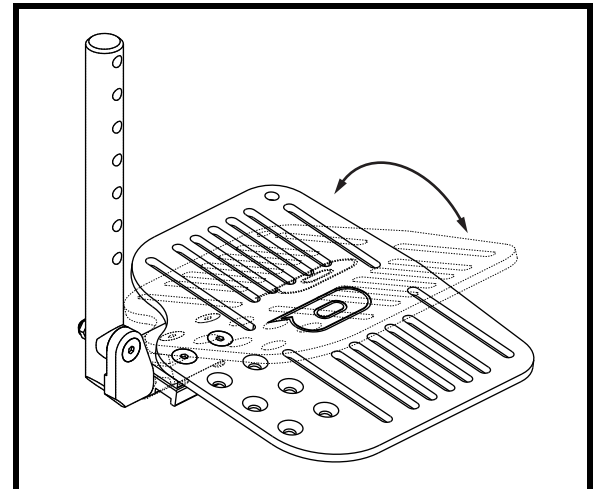

Figure 24. Foot Plate Angle Adjustment
2. Tilt the foot plate forward or back to the desired angle. See **figure 24**.